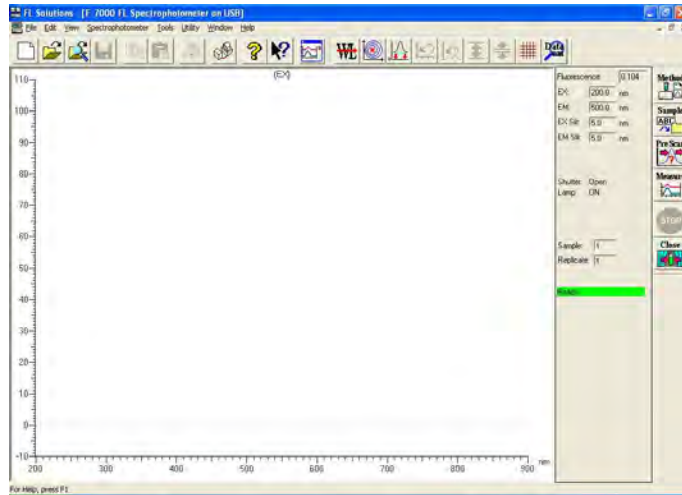

Fig. 1-23
- 7** On completion of initialization, the window shown in Fig. 1-23 is displayed.